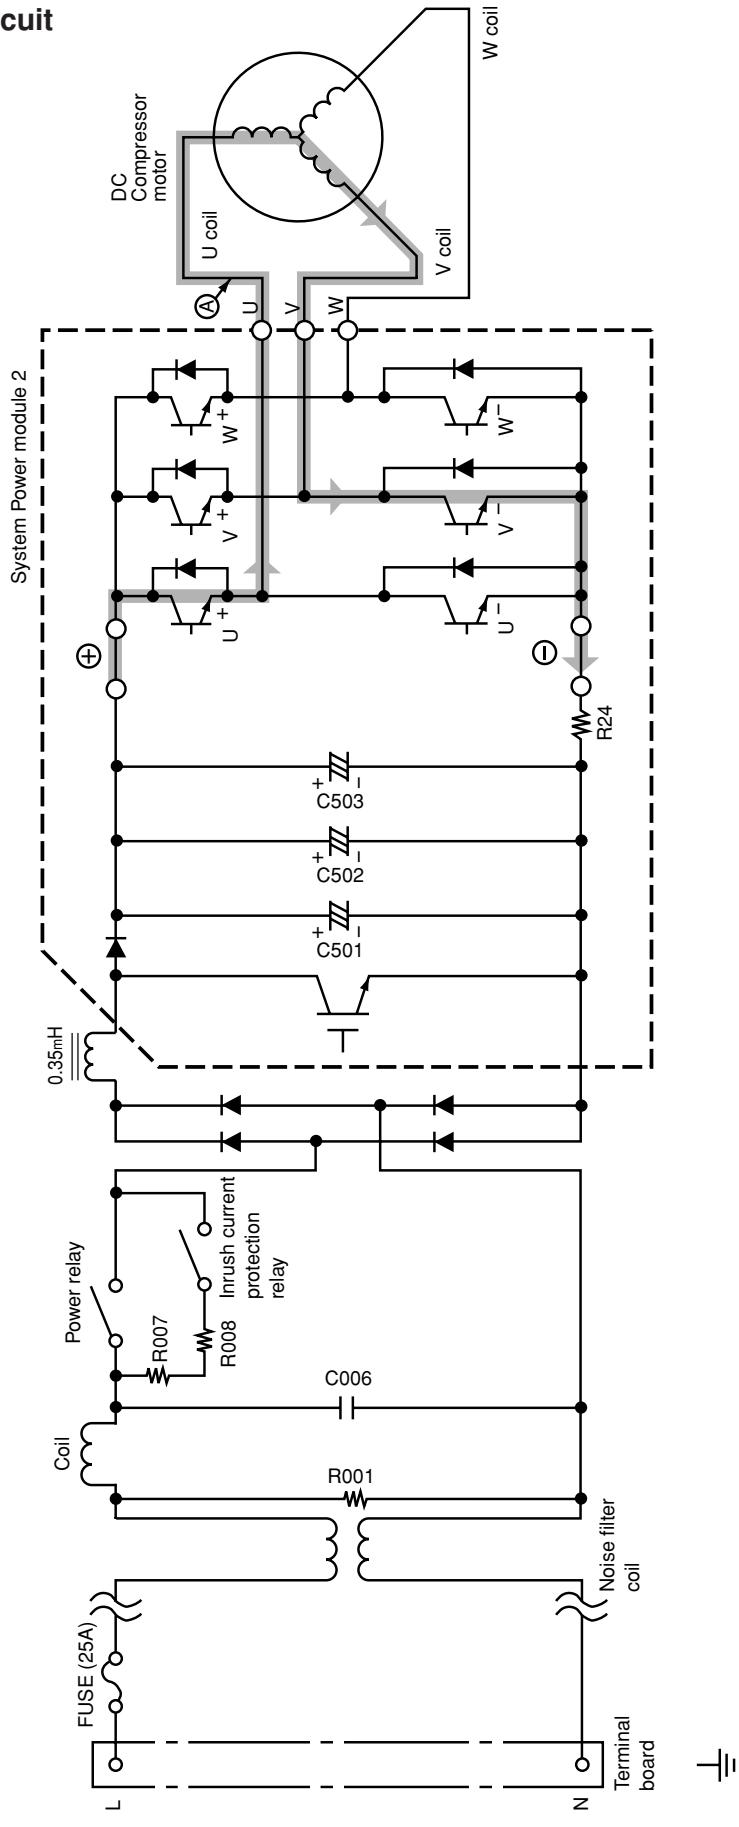
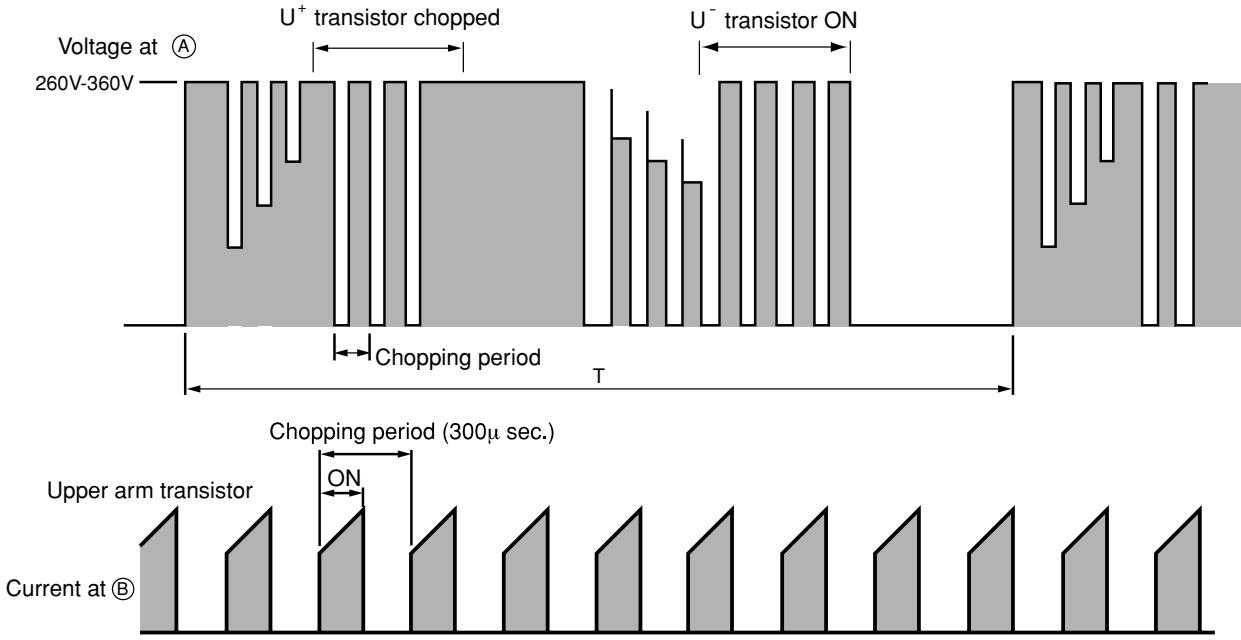

Fig. 3-1 Power module circuit (U^+ is ON, V^- is ON)
Fig. 3-3 Voltage waveform at each point
- Fig. 3-1 shows the system power module and its peripheral circuit.
- Fig. 3-3 shows voltage waveform at each point shown in Figs. 3-1 and 3-4. First half of upper arm is chopper, second half is ON, and first half of lower arm is chopper, second half is ON.
- When power is supplied $U^+ \rightarrow U^-$, because of that U^+ is chopped, current flows as shown below; (B)
- When U^+ transistor is ON: U^+ transistor → U coil → V coil → V^- transistor → DC current detection resistor → Point (B) (Fig. 3-1)
- Since current flows at point B only when U^+ transistor is ON, the current waveform at point B becomes intermittent waveform as shown in Fig. 3-3. Since current at point B is approximately proportional to the input current of the air conditioner, input current is controlled by using DC current (Id) detection resistor.